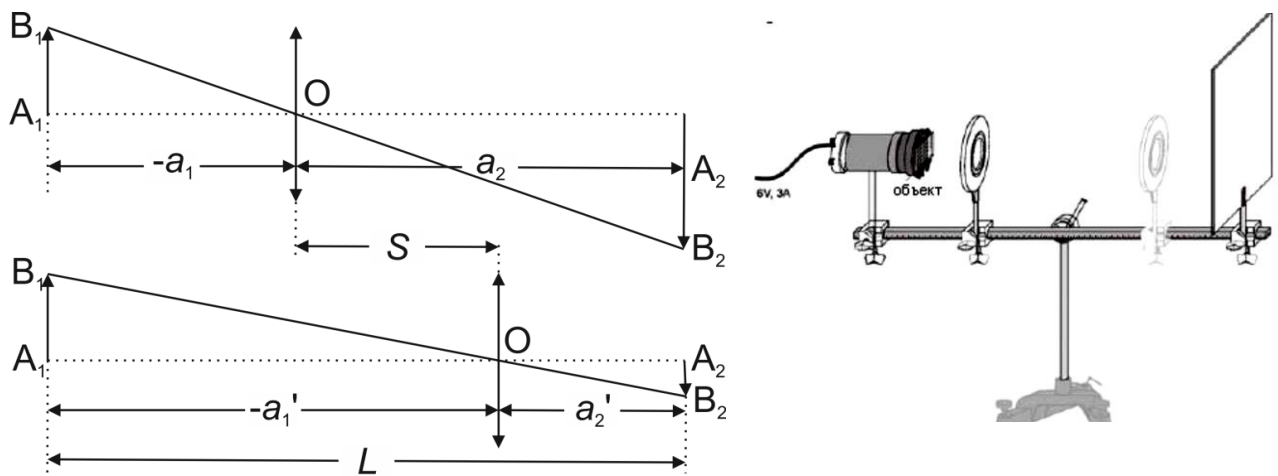

Fig. 41.2. Ray diagram (left) and experimental setup (right) for determining the focal length of a converging thin lens by the Bessel's method
If the object and the image are separated by a distance greater than $4f$, then two positions of the lens can be found, one of which gives a magnified, and the other yields a decreased image (Fig. 41.2 (left)). The distance between the screen and the object in this experiment remains constant.
Let us introduce the values $S = (-a_1') - (-a_1)$ and $L = (-a_1) + a_2$ (the meaning of L and S is clear from the sketch in Fig. 41.2). Allowing for Eq. (41.1), we can derive:
3. Install the lens with $f = 100$ mm between the diaphragm and the screen (Fig. 41.2 (right)).